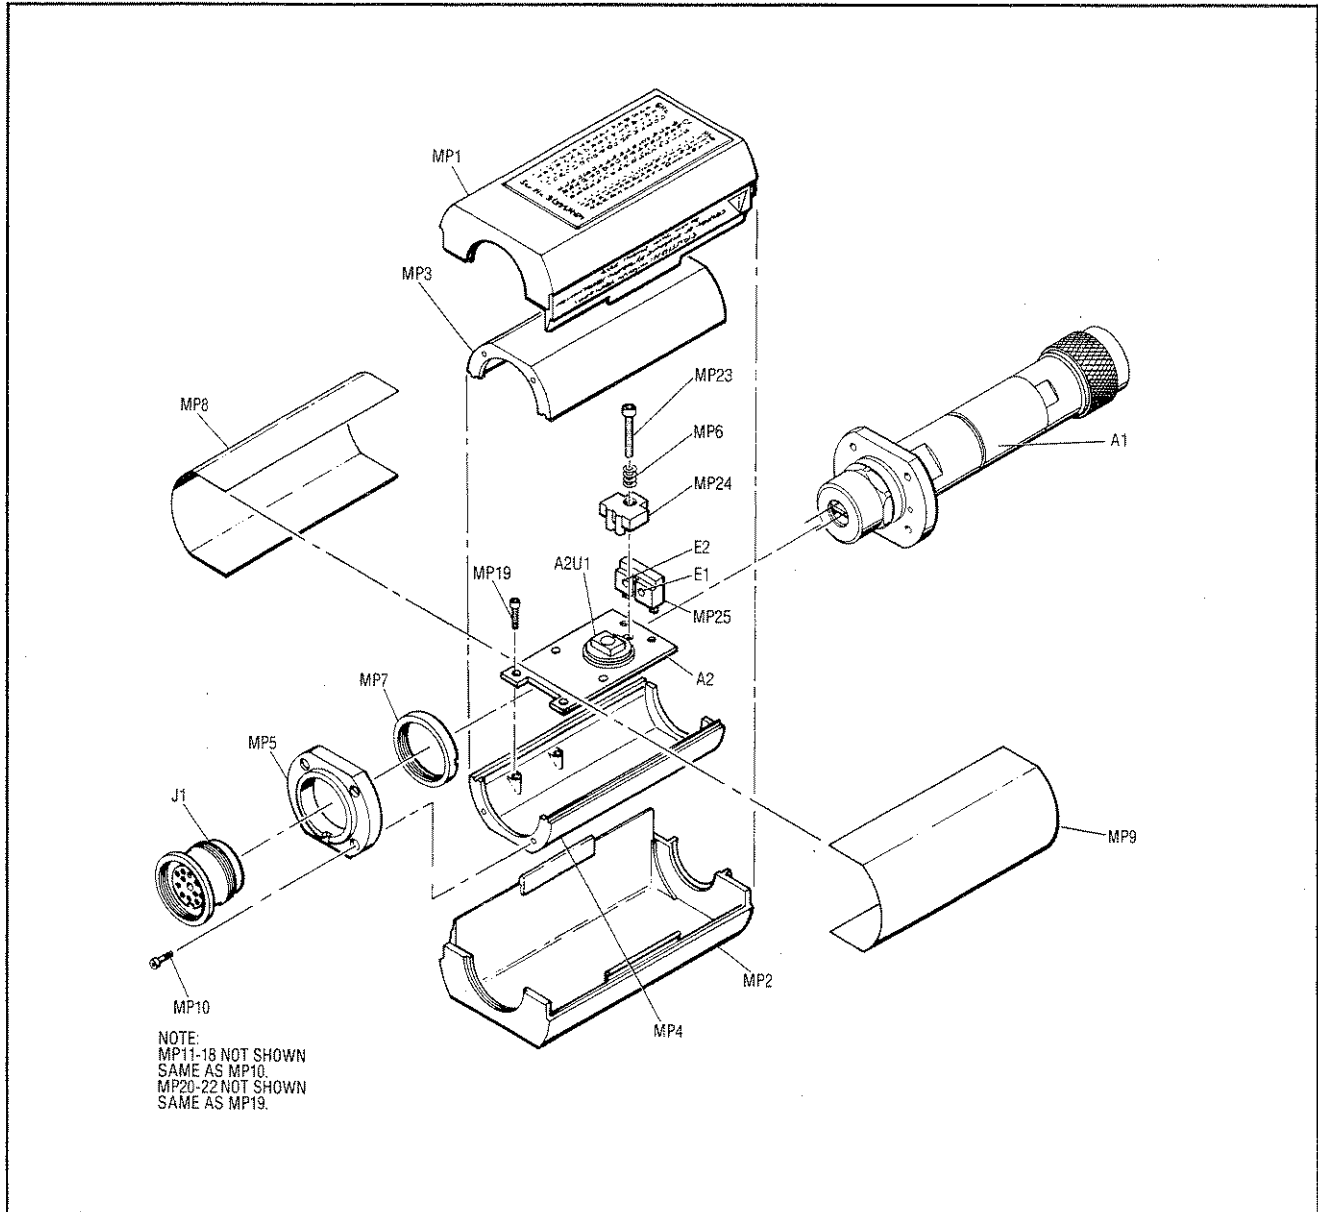
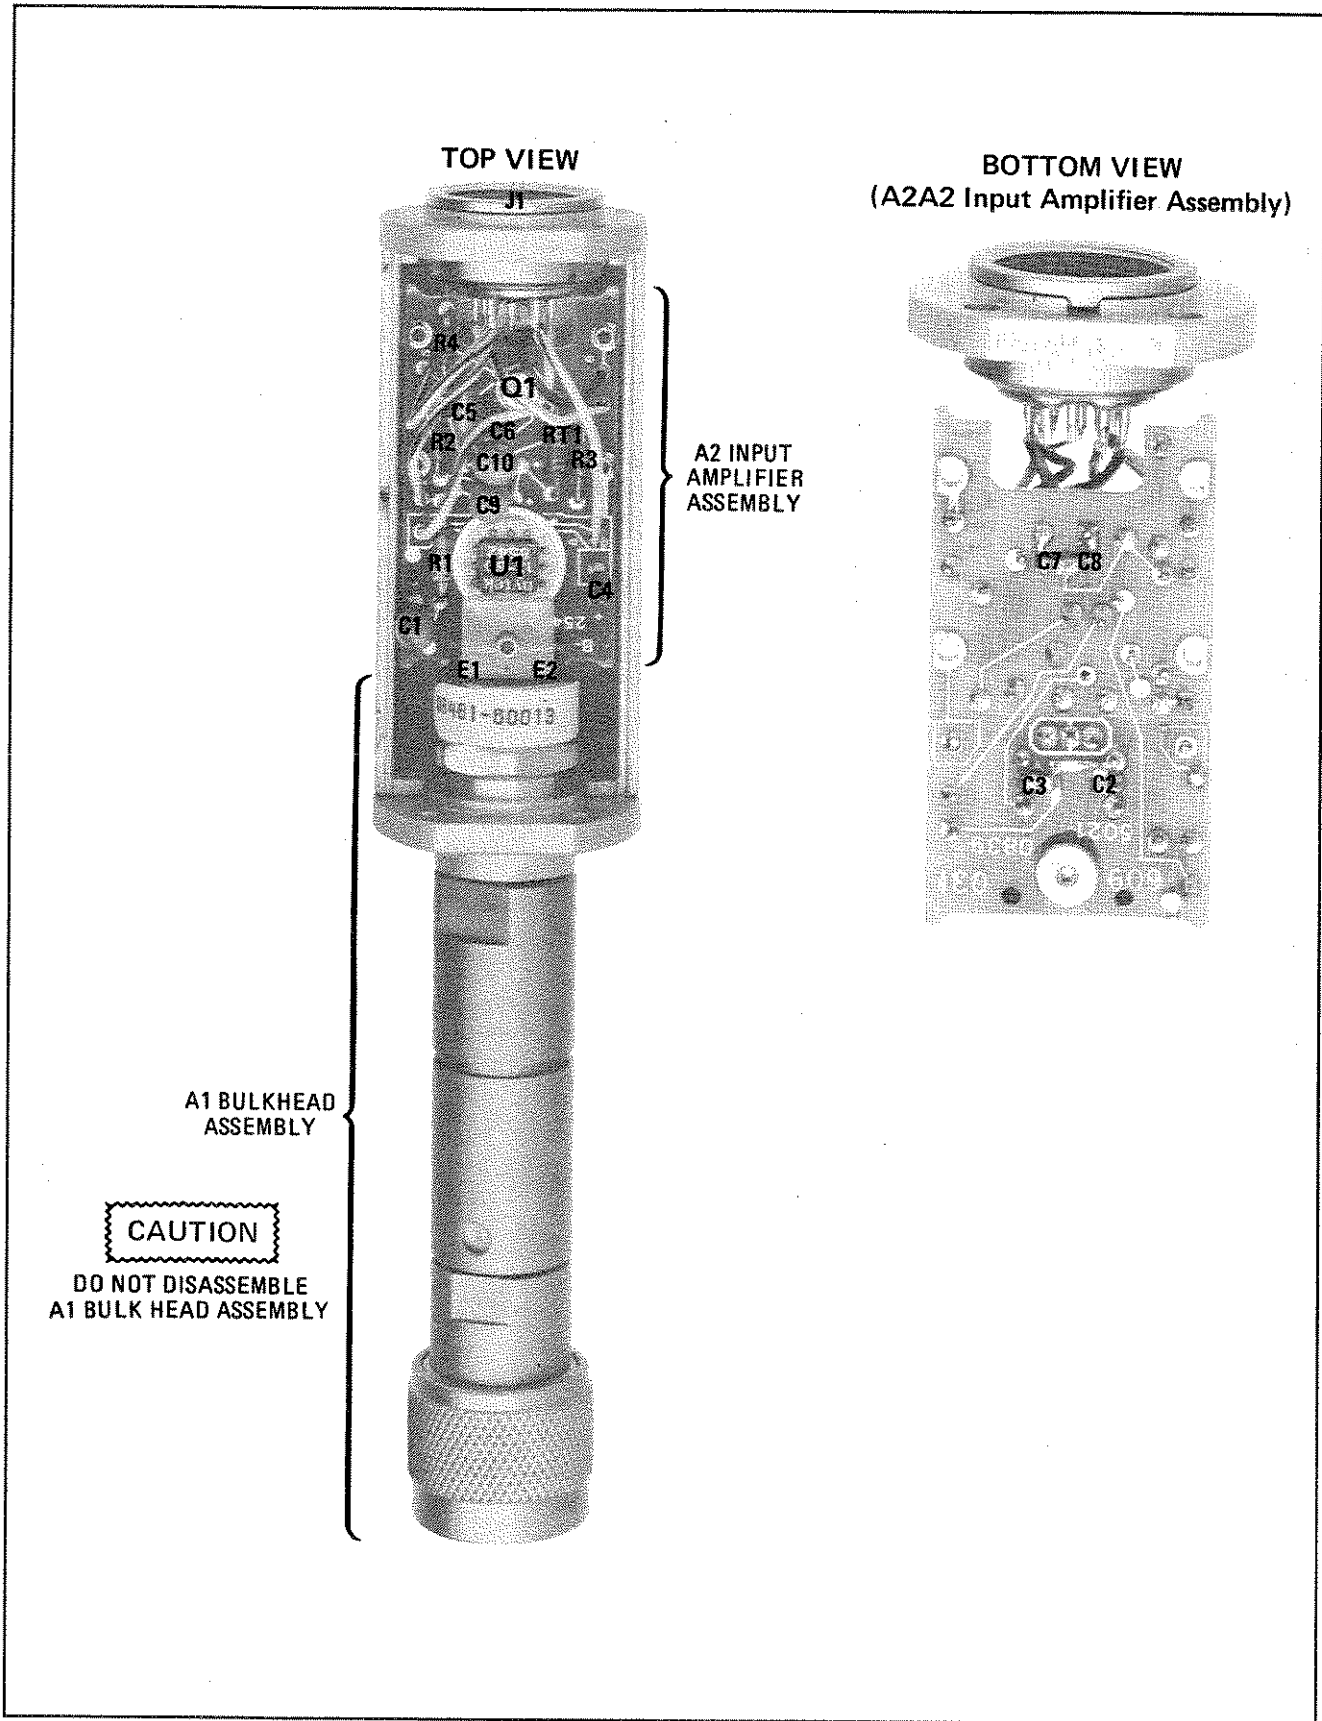
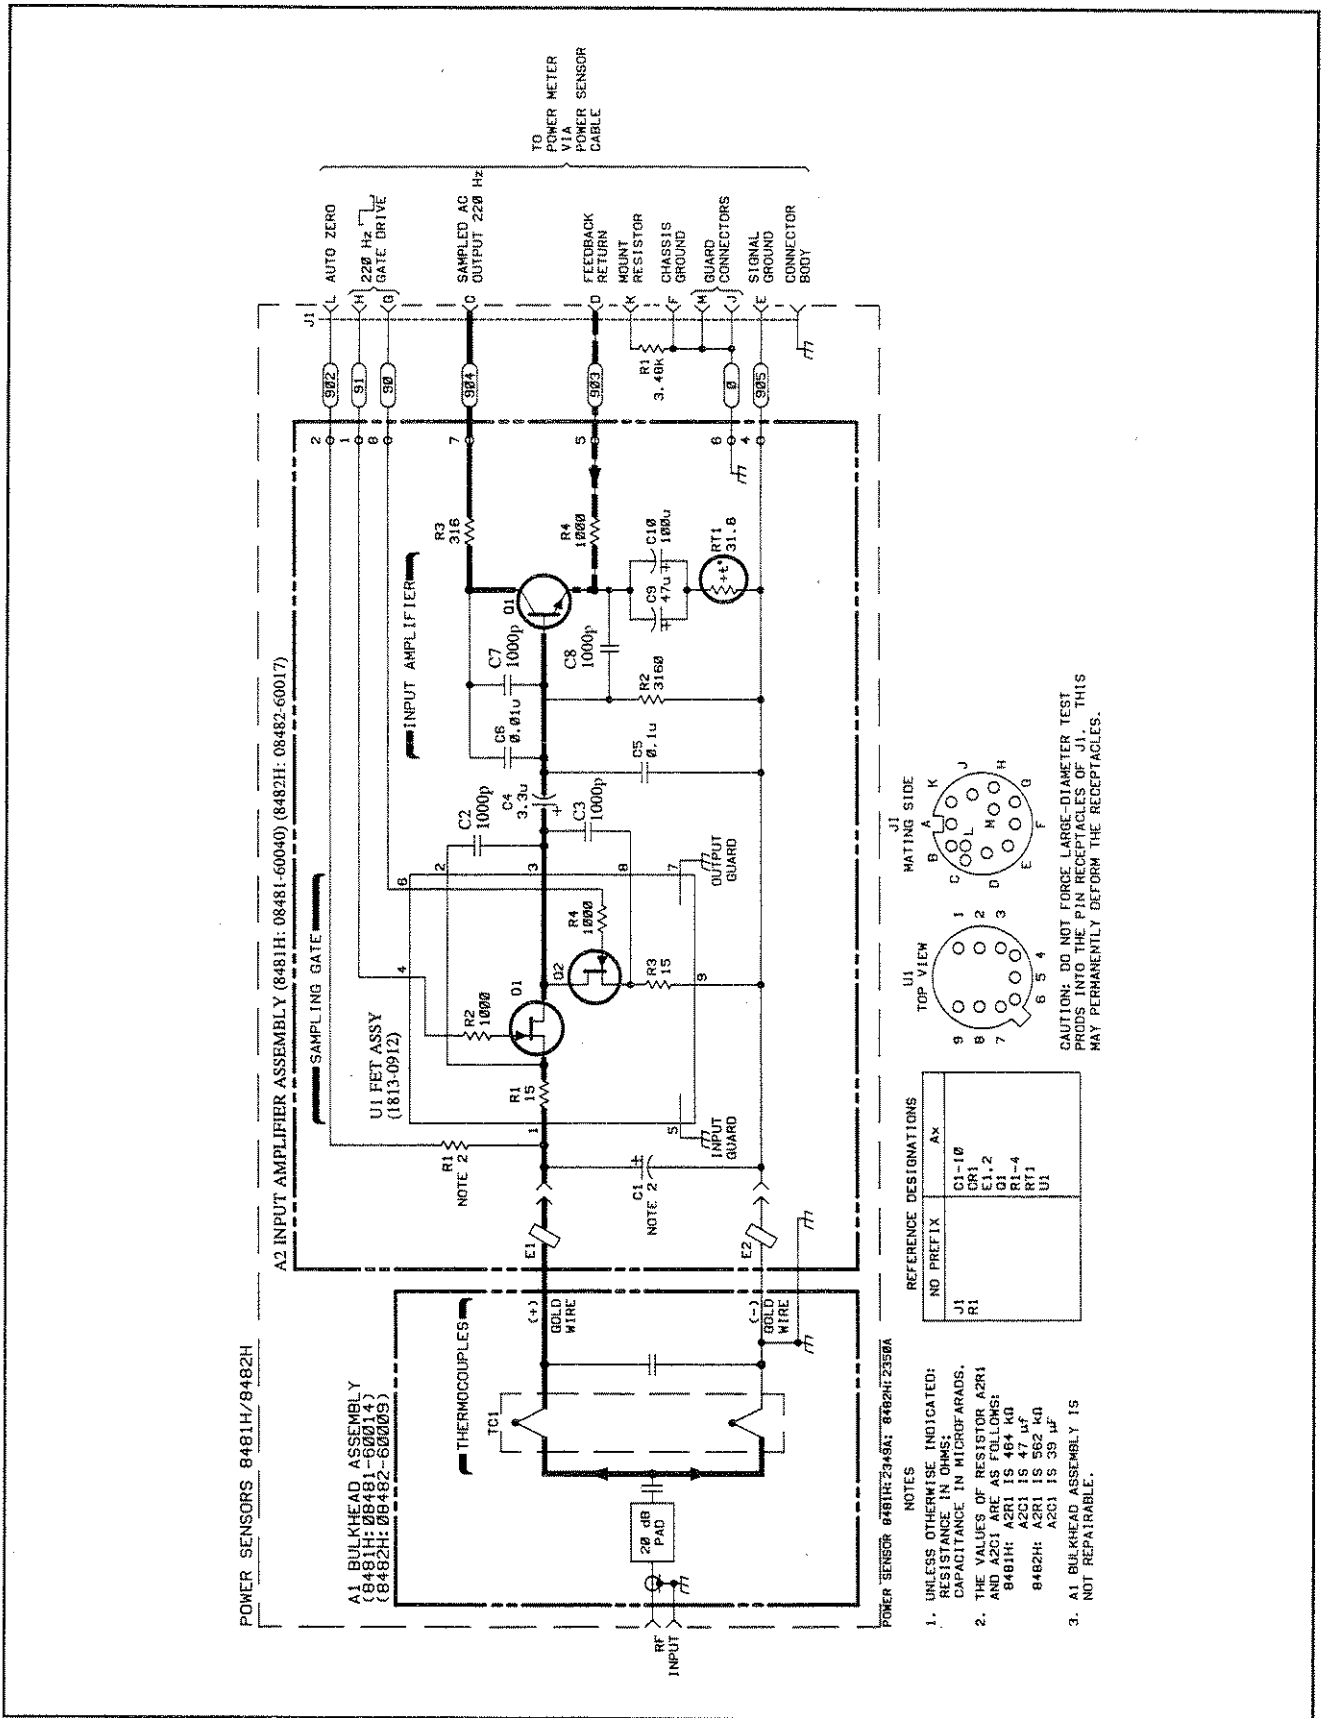

Figure 1. Illustrated Parts Breakdown
Figure 2. Component and Assembly Locations
Figure 3. Schematic Diagram
Table 5 is a list of replaceable parts. Figure 1 and Figure 2 illustrate the major parts. To order a part, quote the Hewlett-Packard part number and check digit (CD), specify the quantity required, and address the order to the nearest Hewlett-Packard office. To order a part not listed in table 4, give the instrument model number, instrument serial number, the description and function of the part, and the quantity of parts required.
Figure 1 and Figure 2 show the locations of the assemblies and components. Figure 3 is the schematic diagram.